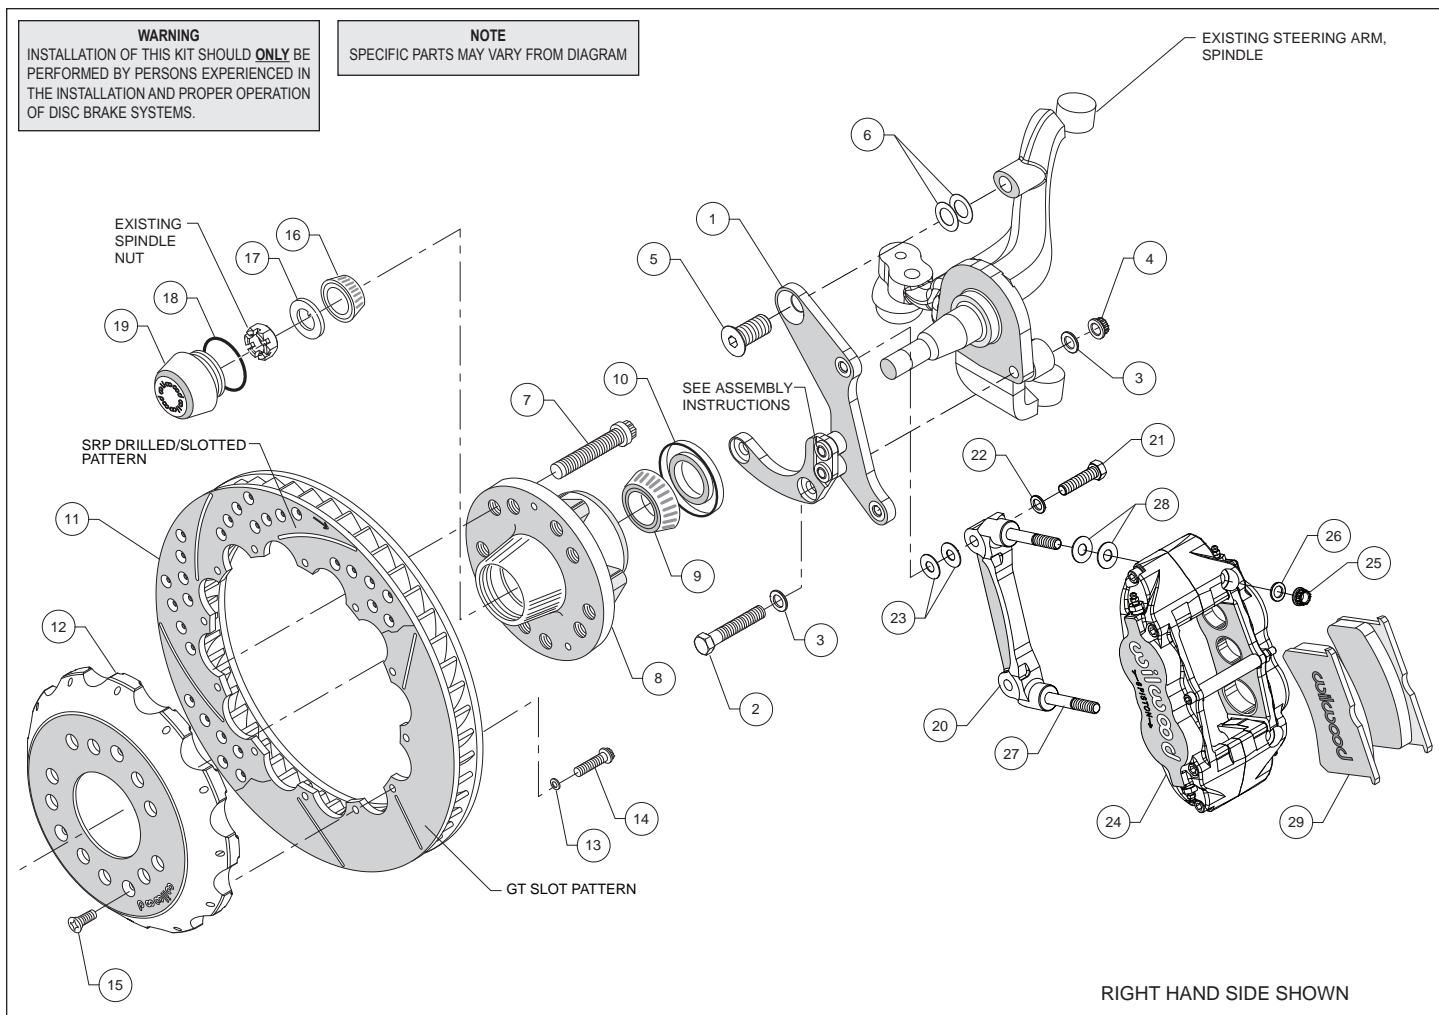
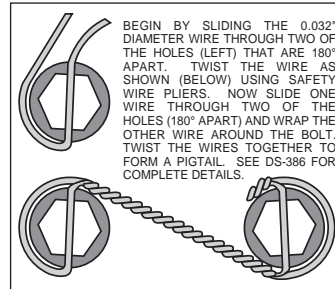
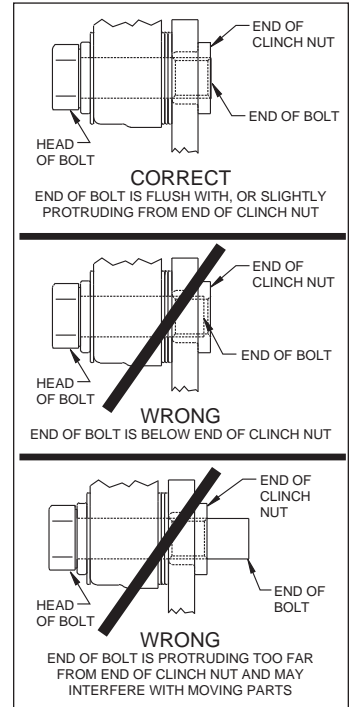

Figure 1. Typical Installation Configuration
Figure 3. Safety Wire Diagram
Figure 4. Clinch Nut Engagement Diagram
Assembly Instructions (numbers in parenthesis refer to the parts list and Figure 1 on the preceding pages): **CAUTION:** All mounting bolts must fully engage clinch nuts. Be sure to check that all bolts are either flush or protruding through flanged side of clinch nut after shimming, Figure 4.
- The spindle bracket (1) has been assembled at the factory for alignment purposes. Loosen the two bolts that secure the brackets together so that the bolts are hand tight only. This will enable the bracket assembly to be adjusted to accommodate various spindle tolerances during assembly. Align bracket with the two lower holes on the spindle face and attach using bolts (2), washers (3), and secure using nuts (4), as shown in Figure 1 and Photo 1. Install bolt (5) through top of bracket while placing shims (6) between bracket and spindle, Figure 1. Initially use two .024" thick shims (6) on the top bolt between the bracket and upright. Temporarily tighten the mounting bolts. Ensure that the flanged heads of the clinch nuts in the bracket are facing outboard, Photo 1. **NOTE:** The bracket must fit squarely against the mounting points on the spindle. Inspect for interference from casting irregularities, machining ridges, burrs, etc.
- Check that the bracket is aligned parallel to the rotor by assembling and installing the hub/rotor per the step below. If not, adjust by adding or subtracting shims (6) between the spindle and bracket, Figure 1.
- Install wheel studs (7) into the hub (8), Photo 2. Torque to 77 ft-lb. **NOTE:** There are two five lug patterns in the hub (5 x 4.50 and 5 x 4.75). Ensure the correct hub stud pattern is being used to fit the wheel application.
- Pack the large inner bearing cone (9) with high temperature disc brake bearing grease (available from your local auto parts store) and install into the backside of the hub (8), Photo 3.
- Install the grease seal (10) by pressing into the backside of the hub (8), flush with the end of the hub, Photo 3.
- Orient the rotor (11) and the hat (12) as shown in Figure 1 and Photo 4. Attach rotor to hat using bolts (14) and washers (13). Using an alternating sequence, apply red *Loctite*® 271 to the threads, and torque to 155 in-lbs. Safety wire bolts using standard 0.032 inch diameter stainless steel safety wire as shown in Figure 3. Refer to Wilwood's data sheet DS-386 (available at www.wilwood.com/Pdf/DataSheets/ds386.pdf) for complete safety wire installation instructions.
- Pack the small outer bearing cone (16) with high temperature disc brake bearing grease and install into hub (8). Slide the hub assembly onto the spindle. Secure using spindle washer (17) and OEM spindle nut, Photo 5. Adjust bearings per OEM specifications. Install saved OEM nut lock (if any) and a new cotter pin (not included).
- Screw dust cap (19) into hub (8), Photo 6. Friction created by the o-ring (18) on the dust cap keeps it from unscrewing. **NOTE:** *The O.D. of the existing OEM spindle washer may be larger than the I.D. of the dust cap not allowing it to seat against the hub face. Therefore, use the spindle washer (17) supplied with the kit instead of the OEM washer.*
- Slide the hat/rotor assembly (11/12) onto the hub (8) taking care to align the small countersunk holes in the hat (12) with the small threaded holes in the hub. **NOTE:** *The hat must fit flush against the hub face or excessive rotor run out may result.* Install three flat head screws (15) through the small holes in the hat, Photo 6, and torque to 85 in-lb.
- The caliper mount bracket (20) should initially be installed with clean, dry threads on the mounting bolts. Orient the bracket as shown in Figure 1 and Photo 7, and install using bolts (21) and washers (22). Initially place two .035" thick shims (23) on each bolt between the bracket and the spindle bracket (1), Figure 1. Temporarily tighten the mounting bolts. Later, after the caliper alignment has been checked, the mount bolts will be secured using red *Loctite*® 271.
- **NOTE:** *This kit contains distinct right and left hand calipers that must be mounted in a specific direction, as described below.* Lubricate the caliper mounting studs (27) with lightweight oil. Initially place two .035" thick shims (28) on each stud between the caliper and the bracket, as shown in Figure 1 and Photo 8. Mount the caliper (24) onto the bracket (27) using lock nuts (25) and washers (26), Figure 1. Ensure that the caliper is mounted so the largest pistons are at the rotor exit end of the caliper, in relation to the direction of rotor rotation. Temporarily tighten the lock nuts and view the rotor through the top opening of the caliper. The rotor should be centered in the caliper, Photo 9. If not, adjust by adding or subtracting shims (23) between the spindle bracket (1) and the caliper bracket. Always use the same amount of shims on each of the two mounting bolts. **NOTE:** *The end of each bolt must be flush with or slightly protruding from the head of the clinch nut, as shown in Figure 4.* If necessary place spare shims between washer (22) and caliper mounting bracket to achieve the proper clinch nut engagement. Once the caliper alignment and clinch nut engagement are correct, remove the bolts one at a time, apply red *Loctite*® 271 to the threads, and torque to 40 ft-lb.